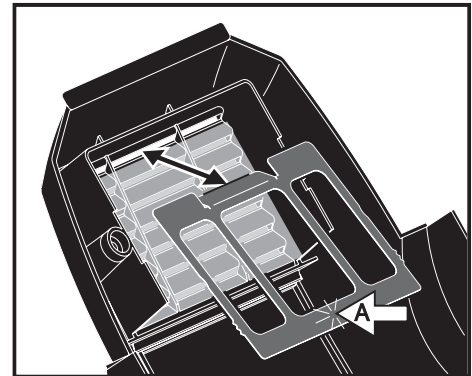

Figure 14: Refitting the air filter
7. Refit the air filter in the lower head cover by placing the filter in position, then hooking the tab on the filter clip under the last louver in the air vent and pressing the clip down onto the filter with a fingertip on (A) until secure (see Figure 14).